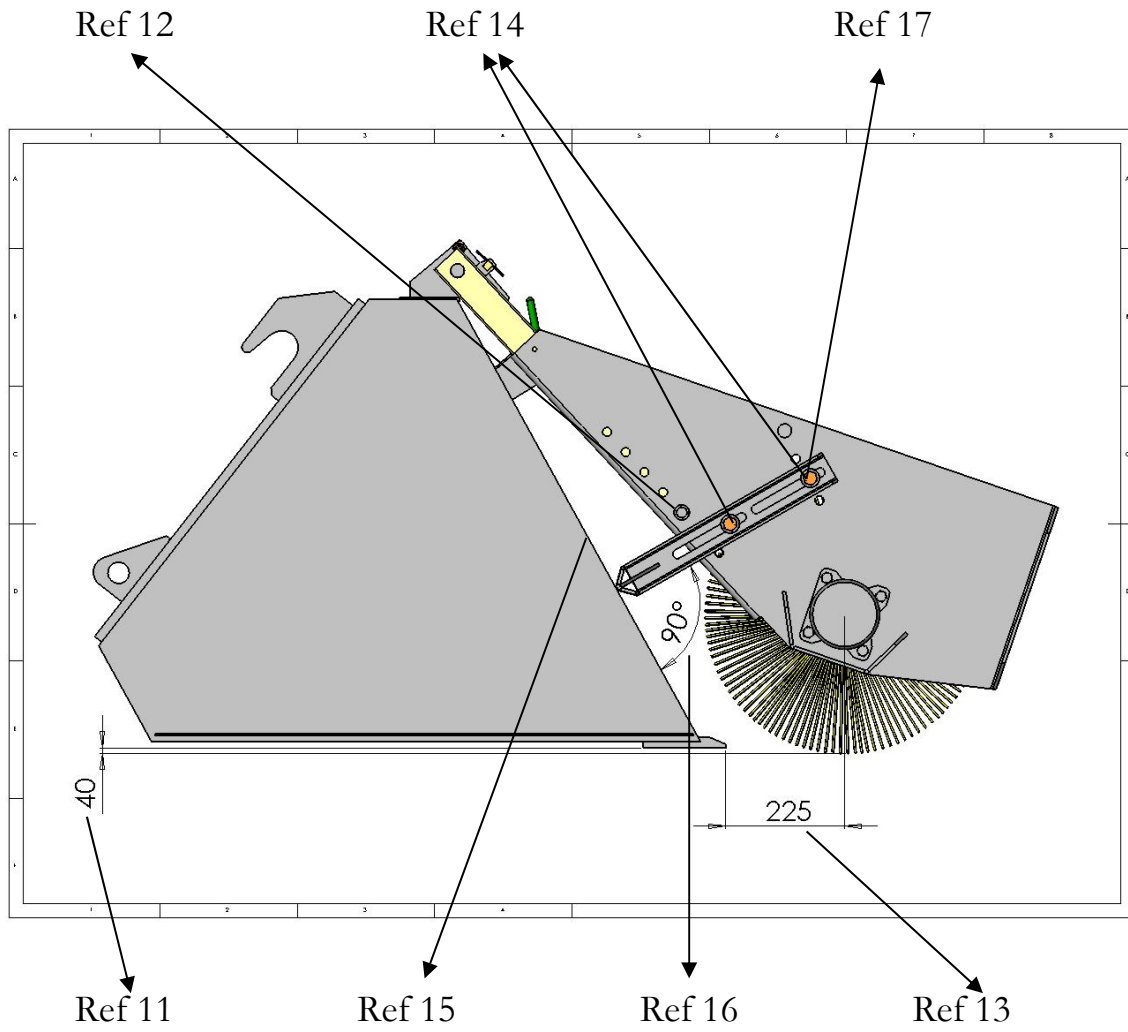

Fig 4
- Set bucket at around 40 to 50 m/m from the ground ensuring the bucket is level ( Ref 11 ) ( Fig 4 ).
Adjust slide jack height so that the brush is resting on the ground producing a 75m/m ( 3" ) sweep pattern ( as item 5 page 5 ) with the bucket approximately 40 m/m ( 1 1/2" ) off the ground and level ( see fig 4 )